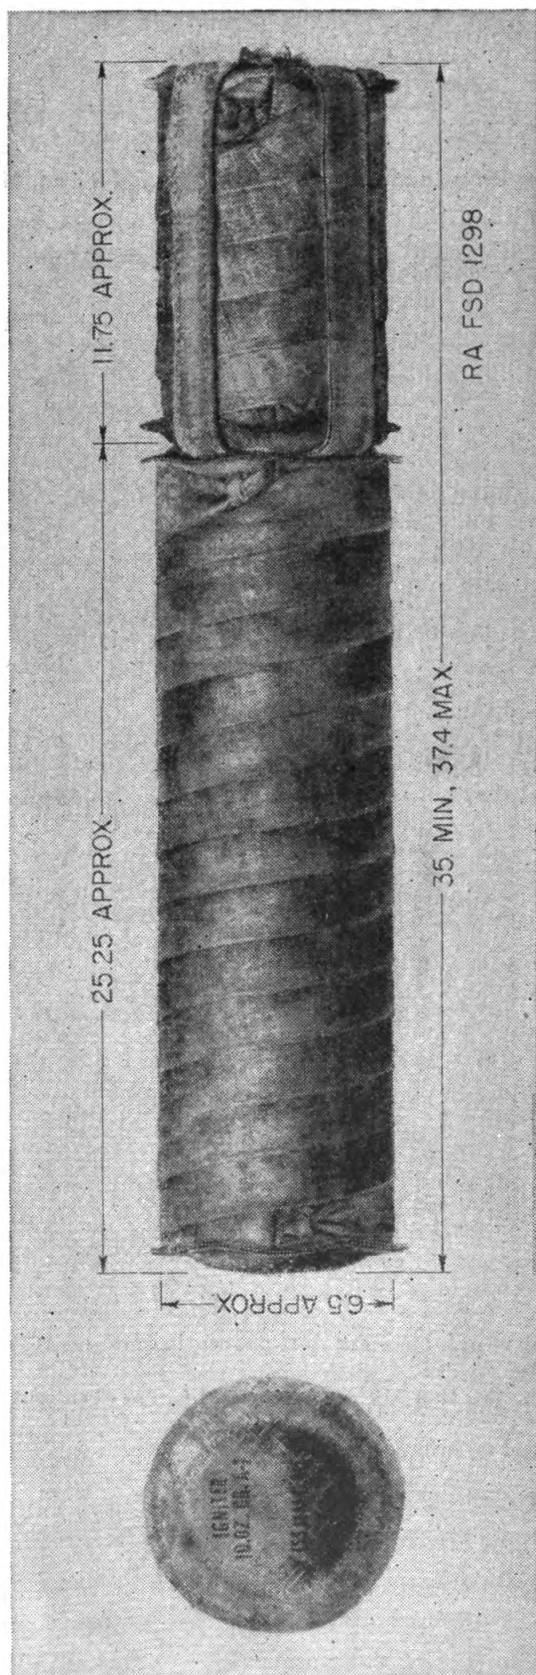

FIGURE 56.—Charge, propelling, NH powder, 155-mm gun M1 and M1A1.
*b. Charge, propelling, NH powder, 155-mm gun M1 and M1A1.*—This charge, shown in figure 56, is standard for use in the 155-mm guns M1 and M1A1. It weighs approximately 33½ pounds. For additional information, including preparation for firing, see paragraph 76.